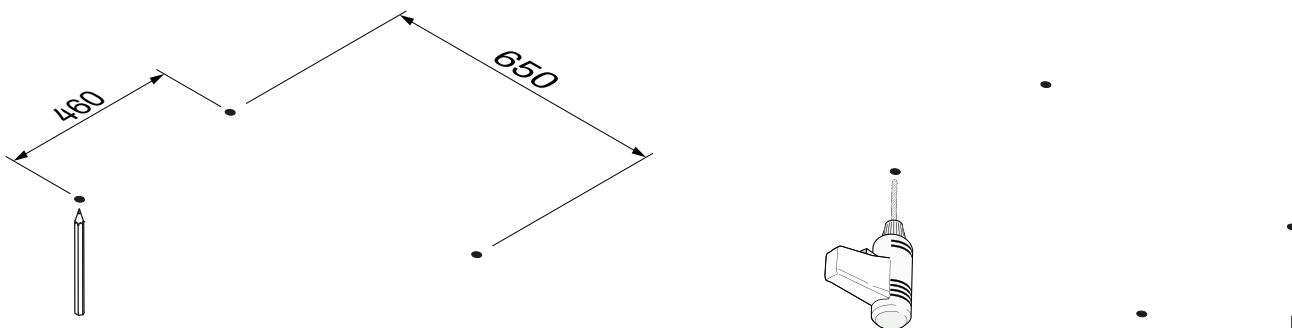

Fig. 1
1. Mark the position and drill the holes in the ceiling (fig. 1).